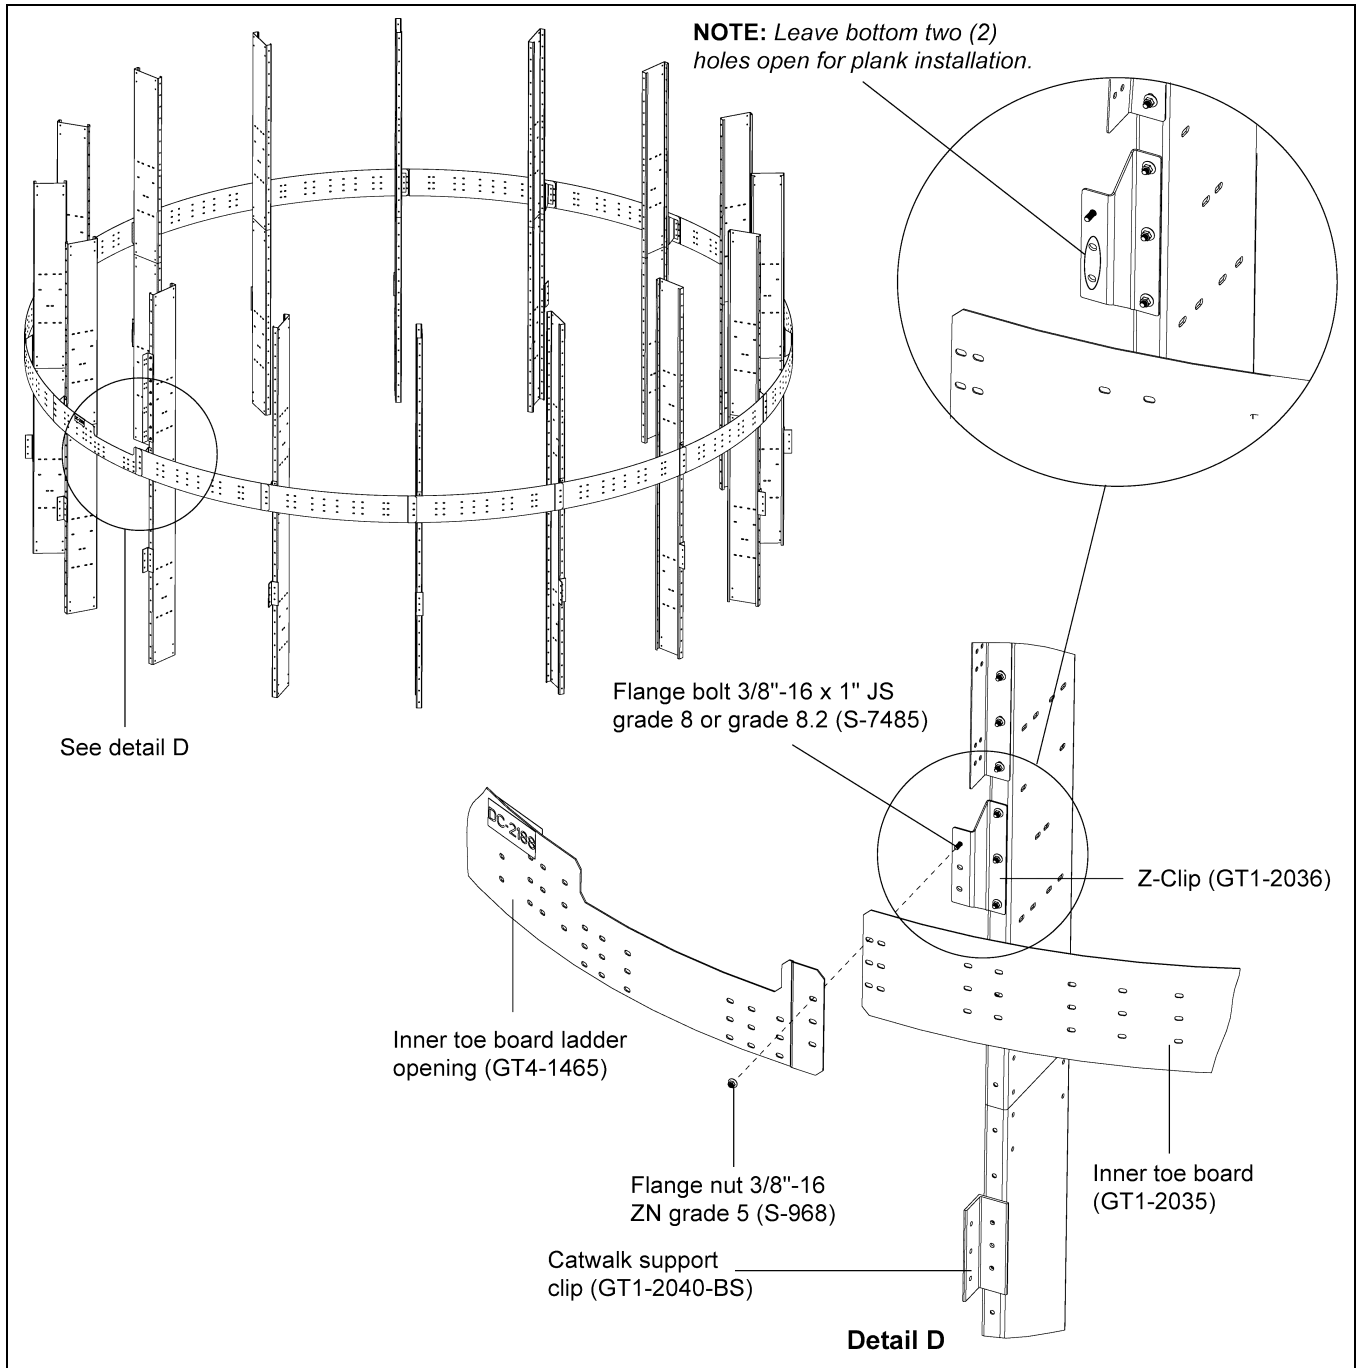
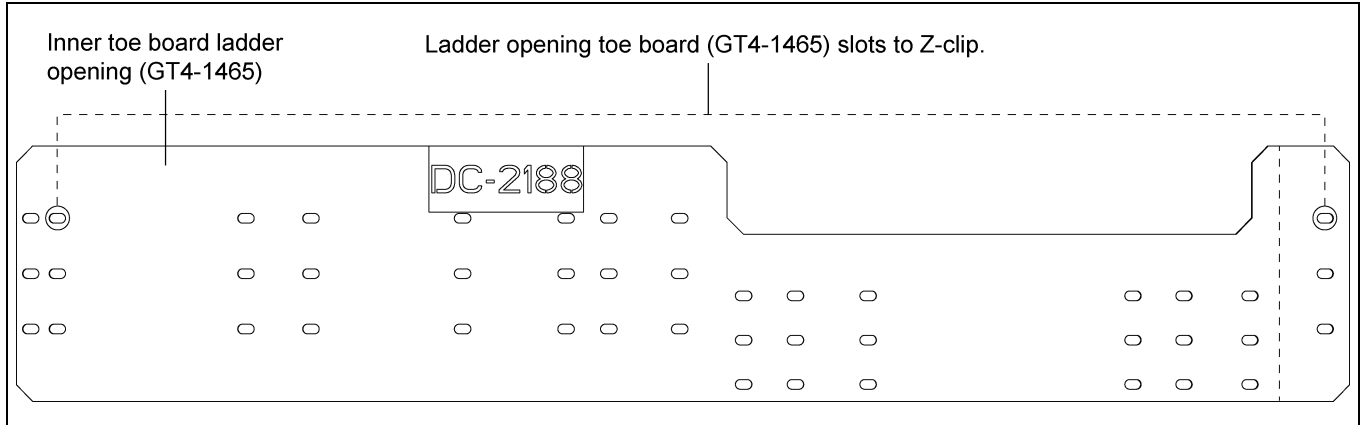

Figure 4G
Figure 4H 24' Ladder Opening Toe Board (GT4-1465)
1. Install the inner toe board (GT1-2035) to the Z-clips (GT1-2036). All toe boards should be installed between the Z-clips using 3/8"-16 x 1" JS grade 8 or grade 8.2 bolts (S-7485) and 3/8"-16 ZN grade 5 nuts (S-968). (See Figure 4G.)
2. At the ladder location, install the ladder opening toe board (GT4-1465) to Z-clips using 3/8"-16 x 1" JS grade 8 or grade 8.2 bolts (S-7485) and 3/8"-16 ZN grade 5 nuts (S-968) in such a way that toe board opening falls on the ladder path. (See Figure 4G below and Figure 4H on Page 18.)